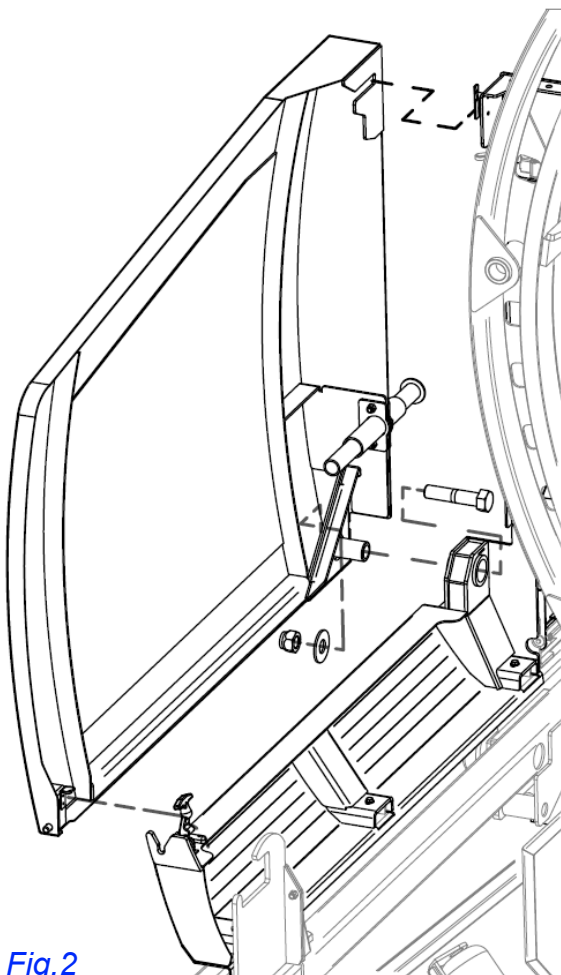

Fig.2
4. Install left safety guard by bolting at pivot point. Do not over tighten. See Fig.2.